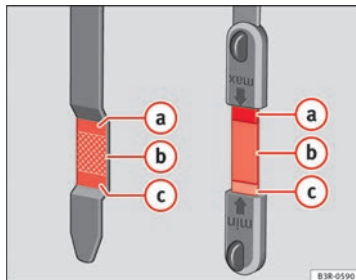

Fig. 181 Markings on oil dipstick
- Then pull it out once more and check the oil level ⇒ Fig. 181. If the oil level is too low, add more engine oil ⇒ page 240.